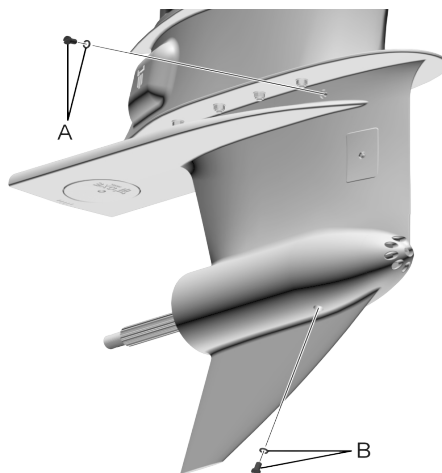

Fig. 59 Filling the lower unit oil
1. Remove the M20 sight glass (C)/belt tensioner
2. Fill with belt oil through the sight glass inlet (D/ tensioner until oil begins to come out at the upper oil plug (A).Figure 59